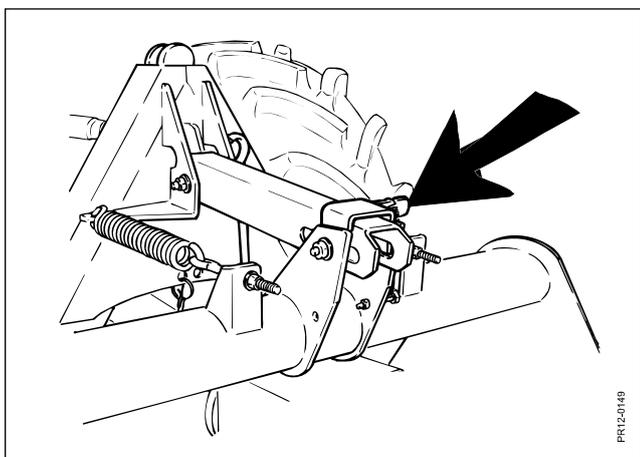

Fig. 2-5
- Fig. 2-5** Loosen the transport lock (only CM 3050 F): Lower the mower and adjust the top link so that the bolt for the shock absorber is in the front third of the oblong hole.